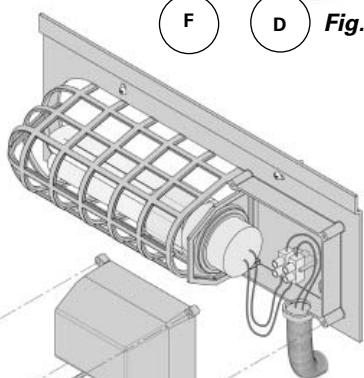

Fig.4
7. Close the cover by means of the 4 screws (G) (fig. 4).